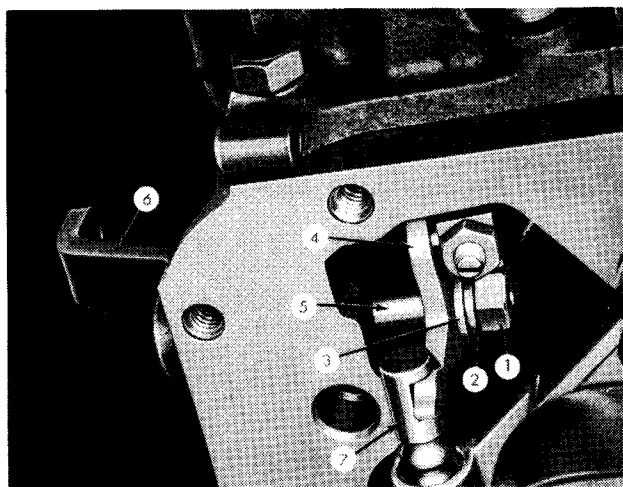

FIG. 1
2. Remove the nut (1, Fig. 1), lock washer (2) and flat washer (3) holding the selector
3. Disconnect the hand control bell crank-to-transmission rod at the selector control shaft assembly (6, Fig. 1).
5. Install the flat washer, lock washer, and nut holding the selector control shaft inner lever to the selector control shaft. Tighten and check to assure that the selector control shaft inner lever is properly positioned in the selector valve (7, Fig. 1).